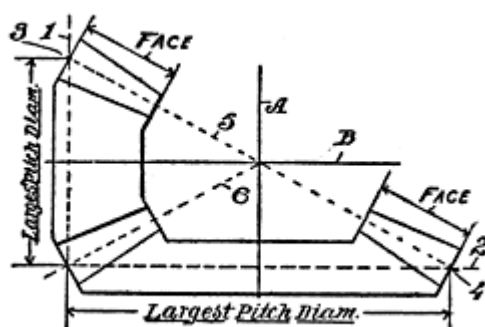

Fig. 124. Miter Gears.
DRAWING GEARS.—Draw two lines at right angles, Fig. 124, as 1 and 2, marking off the sizes of the two wheels at the points 3, 4. Then draw a vertical line (A) midway between the marks of the line 2, and this will be the center of the main pinion.